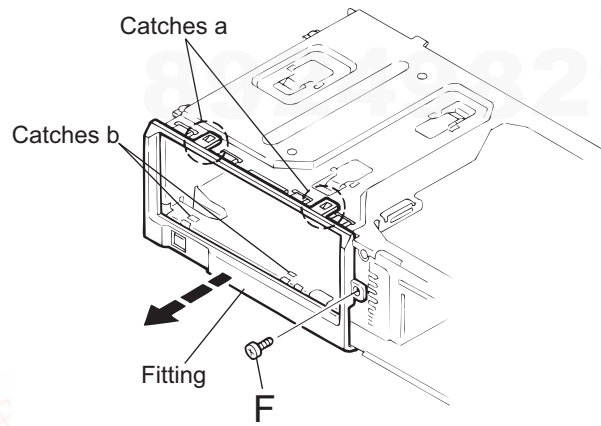

Fig.10
3.1.3 Removing the fittings (See Fig.10)